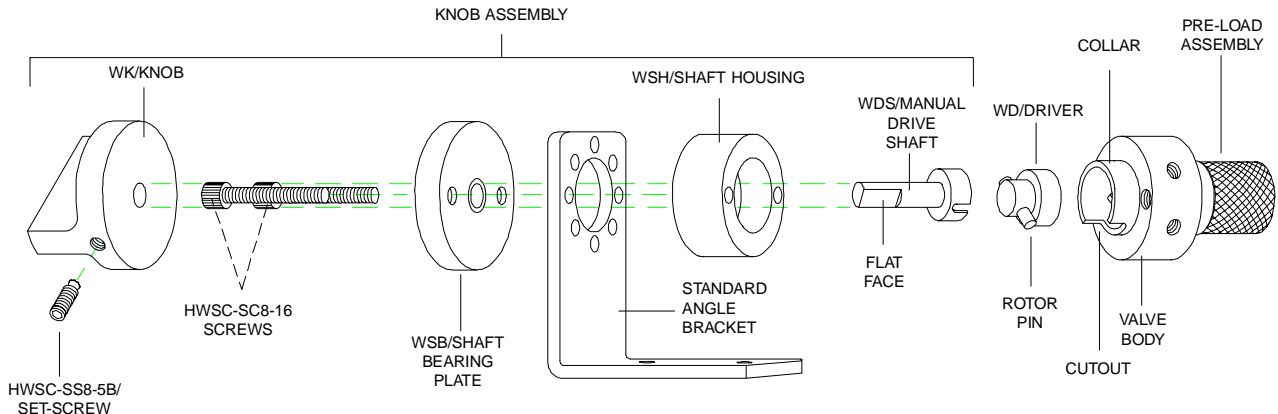

Figure 4: W or UW type valve with knob assembly
2. See **Figure 4**. Loosen the set-screw within the W valve knob and pull the knob off of the manual drive shaft.